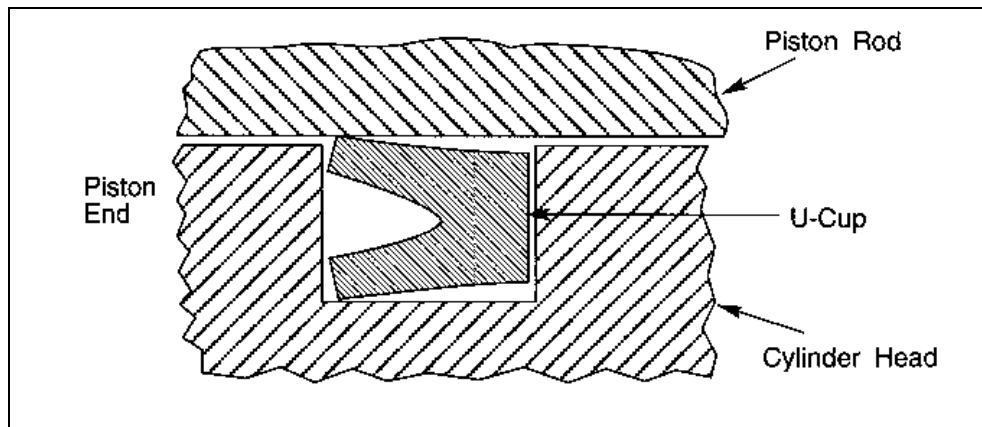

Figure 1—Piston Rod U-Cup Seal Placement
1. Lubricate the rod seals, then push them into place in the cylinder head as shown in Figure 1. Be sure the grooves in the U-cups face the piston end of the cylinder head.